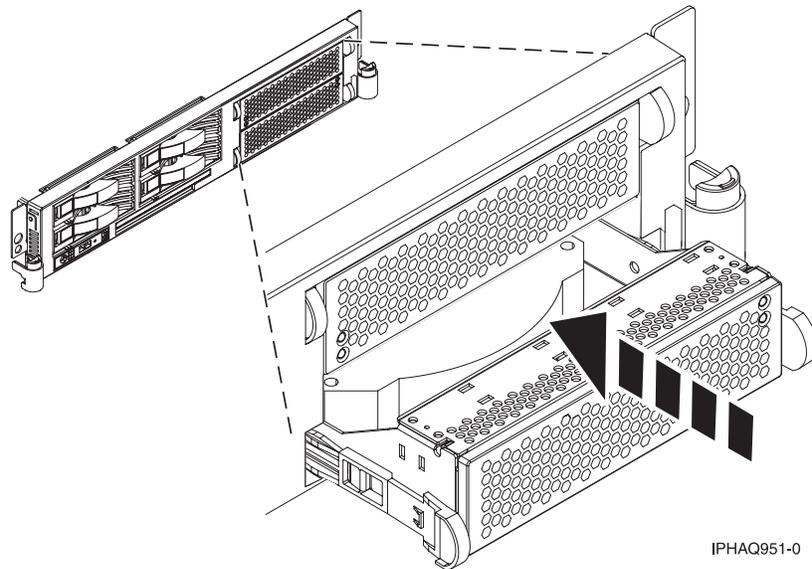

Figure 21. Rack-mounted system unit fan replacement
4. As shown in Figure 21 on page 21, hold the tabs in the open position as you place the fan into the system.